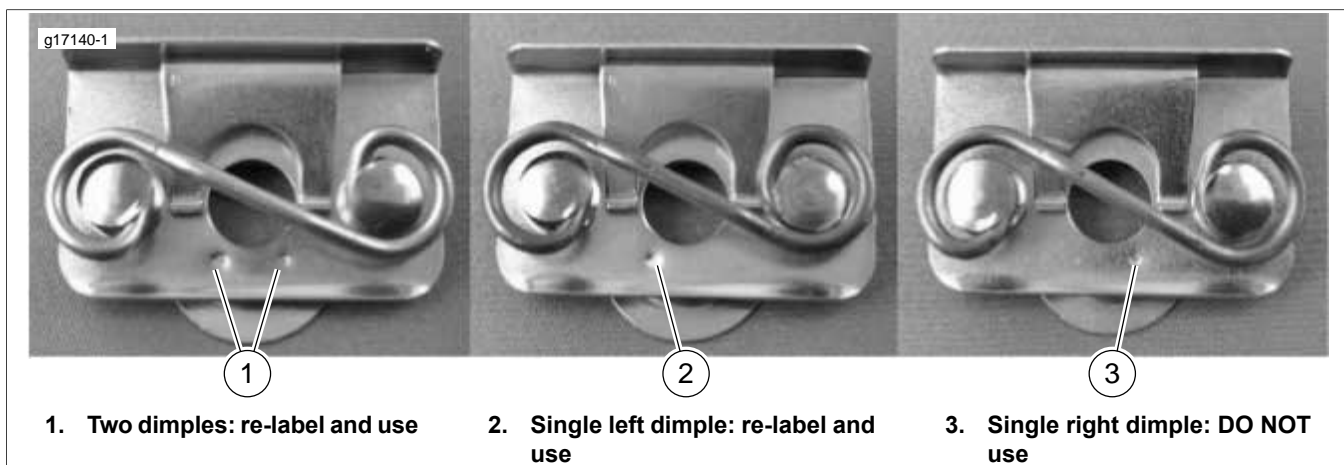

Figure 1. Saddlebag Stud Receptacles (shown inverted from installed position)
- See Figure 1. Inspect all later date code inventory of kit 91500084 as shown in Figure 1.